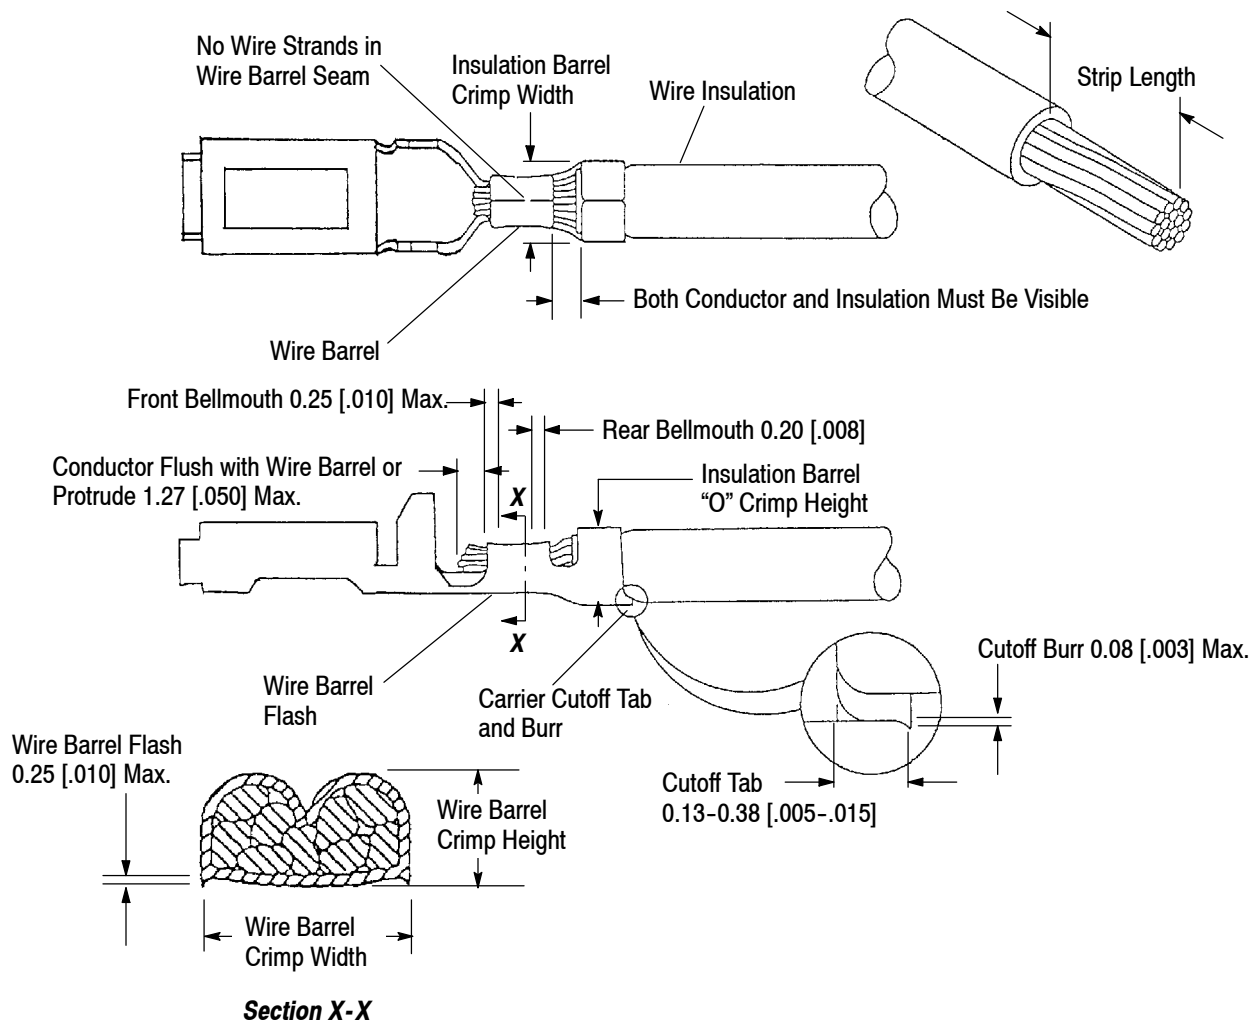

Figure 2 (cont'd)
- E. The front and rear bellmouths shall be evident and conform to the dimensions given in Figure 2.
- F. After crimping, the conductor shall be flush with the front end of the wire barrel or protrude beyond the wire barrel to the maximum shown in Figure 2.